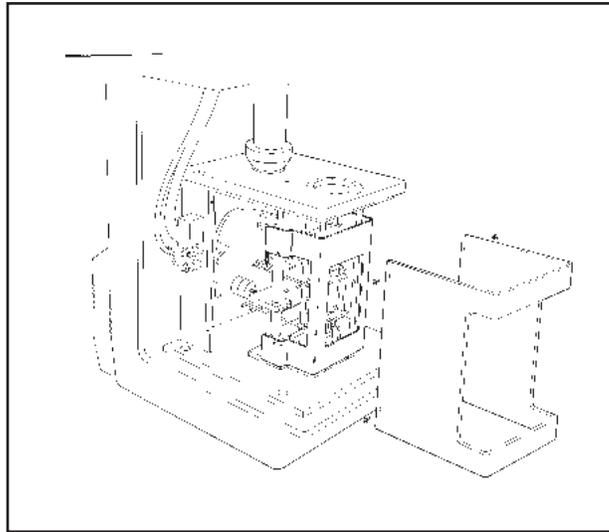

Figure 2.4
9. Slide the balance enclosure out and remove it (see Figure 2.4).